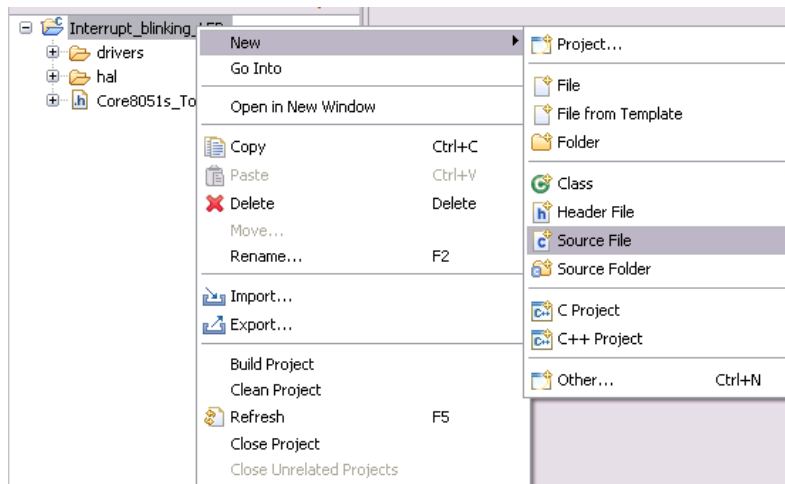

Figure 26 Creating New Source File
10. Create a new C source file, as shown in Figure 26.